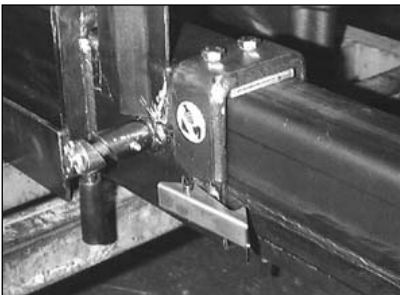

fig. 10b
- Position the lever **B** (fig. 10b) downwards; the locking loaded security device remains released.